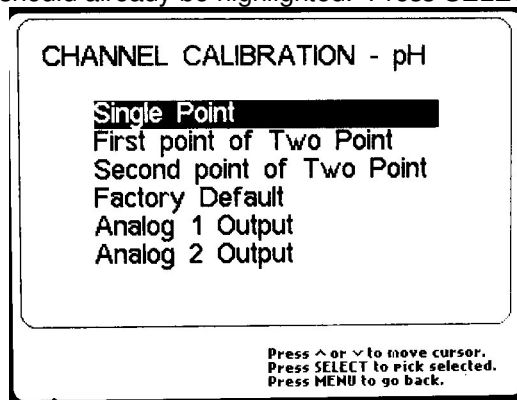

Figure 37 - Channel Calibration - pH Menu
3. From the CHANNEL CALIBRATION – pH menu screen (Figure 37), the SINGLE
3. From the CHANNEL CALIBRATION – pH screen (Figure 37), press the down arrow key once to highlight the FIRST POINT OF TWO POINT option. Press SELECT.
6. From the CHANNEL CALIBRATION – pH screen (Figure 37), use the down arrow key to highlight the SECOND POINT OF TWO POINT option. Press SELECT